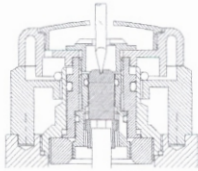

FIG 1
\* To adjust the temperature supply ensure that the water is flowing and remove the knob insert (1) from the valve. Using a narrow bladed screwdriver, insert it through the retaining screw (2) until it is located in the slot of the adjusting screw (12). (fig 1).